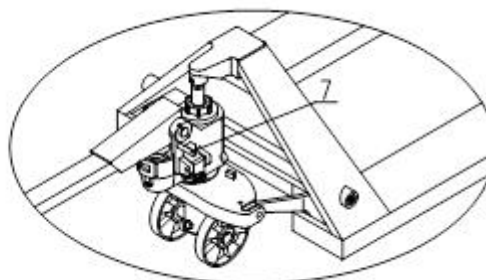

Fig. 4
3.7 See Fig 4: Push the Handle (3) to a horizontal position, pull out Pin (7) and save for next use.